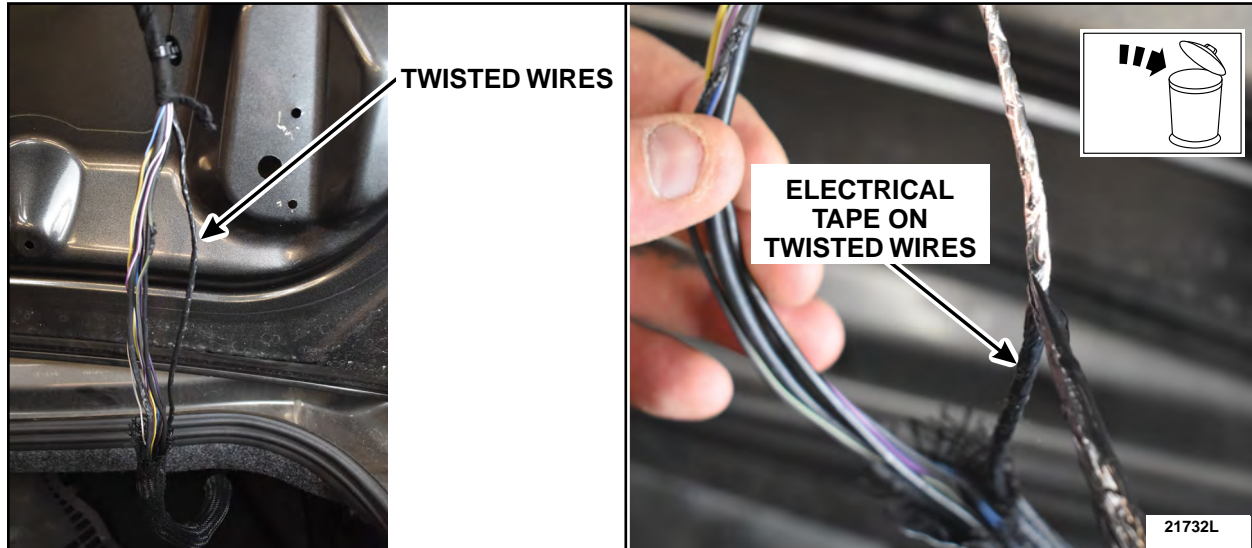

FIGURE 37
50. Locate the twisted wires. Carefully remove and discard the electrical tape on the twisted wires the full length of the exposed wiring. See Figure 37.